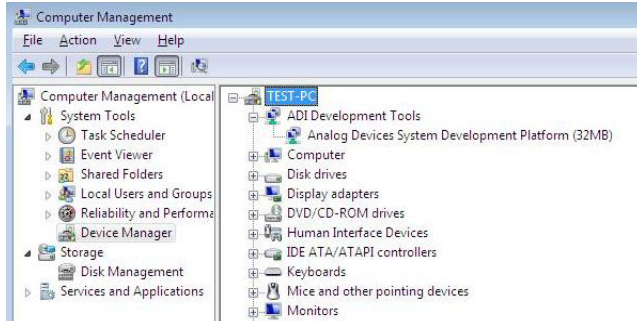

Figure 15. Checking That the Evaluation Board Is Connected to the PC Correctly
- c. The **Computer Management** window appears. Click **Device Manager** from the list of **System Tools** (see Figure 15).